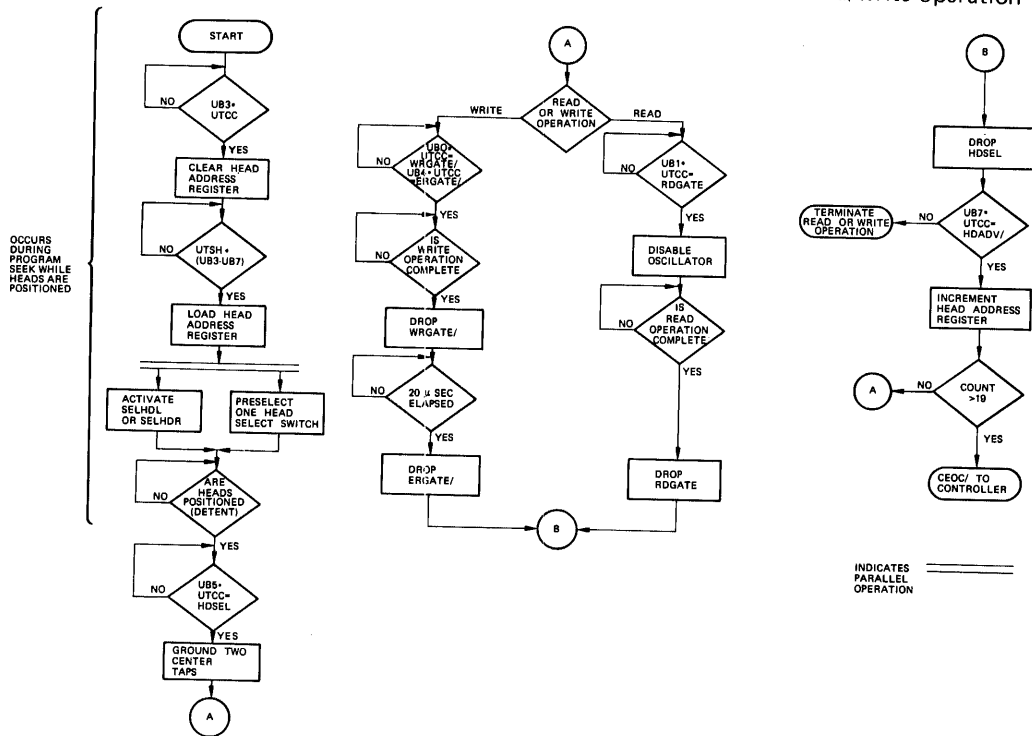

Figure 3-88. Read/Write Operation, Flow Diagram
- The OR converter outputs are enabled back to the controller by RDGATE high. Figure 3-88 is a flow diagram of the read/write operation